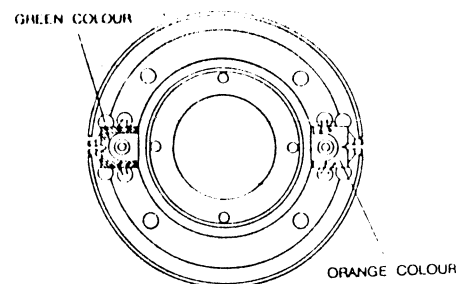
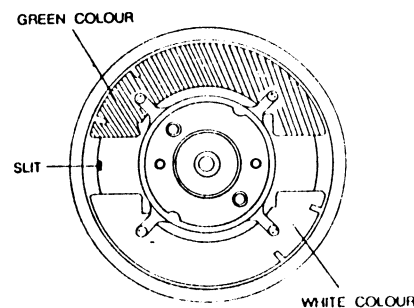

Fig. 26 Upper Cylinder Bottom View
Fig. 27 Lower Cylinder Top View
1. Align the head tip of Green PCB on upper cylinder bottom side (Fig. 26) to slit of rotary trans on lower cylinder (Fig. 27).
2. Tighten two (2) screws.